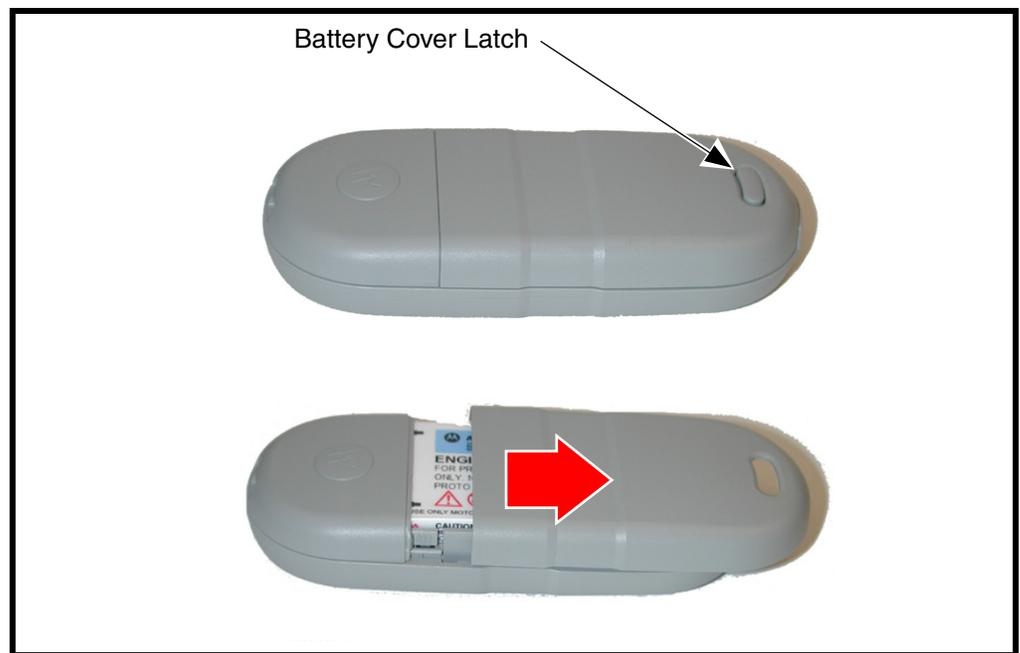

Figure 4. Removing the Battery Cover
2. Lift the bottom end of the battery from the phone, then remove it completely as shown in Figure 4.